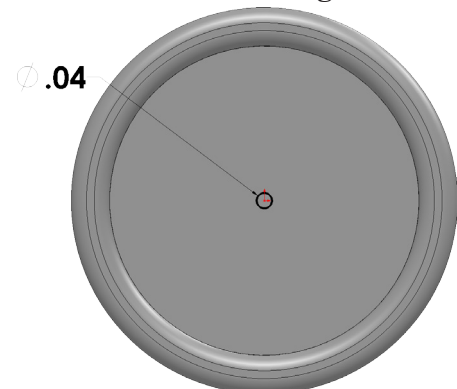

Fig. 10
Step 3. Click **Circle**  (S) on the Sketch toolbar.
Step 4. Draw **circle at the Origin** , **Fig. 10**.
Step 5. Click **Smart Dimension**  (S) on the Sketch toolbar.
Step 6. Dimension circle **.04 diameter**, **Fig. 10**.